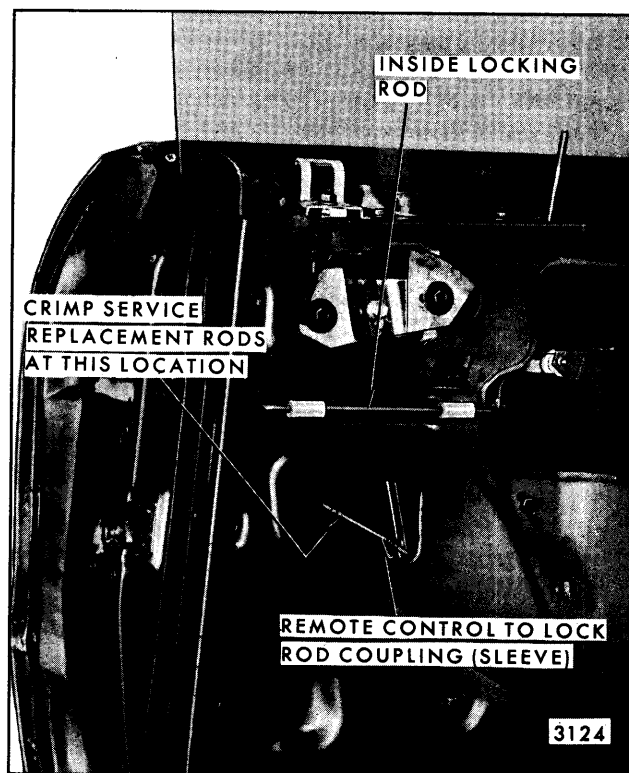
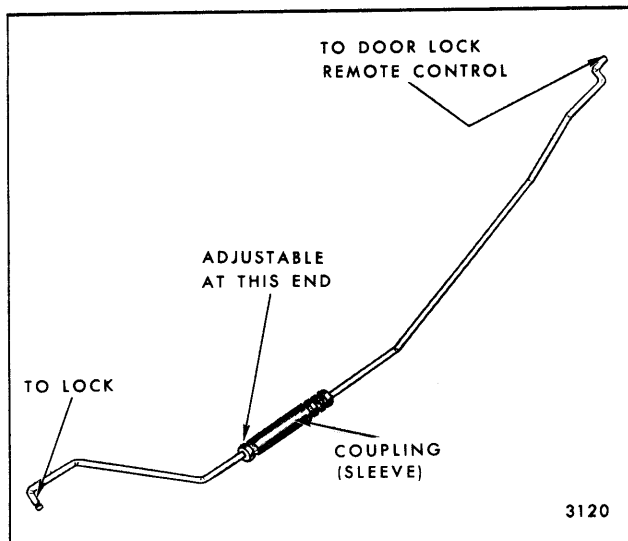

Fig. 6-65—Front Door Inside Locking Rod - Coupe Styles
Fig. 6-66—Door Lock Remote Control to Lock Connecting Rod - "G" Styles
2. Slide inside locking rod to door inner panel plastic retainers in direction of arrows shown in Figure 6-65.
**NOTE:** Due to the limited operating travel of the squeeze type remote control handle on "G" styles, an adjustable remote control to lock rod coupling (sleeve, Figure 6-65) is utilized to insure proper locking operation.
The overall length of the "G" body remote control to lock rod can be reduced, to correct insufficient travel of the remote handle to unlock the door, by removing the rod assembly and turning the portion of the rod between the coupling and lock assembly clockwise (Refer to Figure 6-66). To increase the rod assembly length, turn counterclockwise. Proper rod length is determined to be correct when the connecting rod assembly aligns with the attaching holes in the door lock remote control and lock assembly.
Service Replacement "G" body remote control to lock rods are uncrimped at the adjustable end of the coupling (Figure 6-66). This permits the rod to telescope to the desired length when installing, but necessitates crimping of the coupling after installation. Crimping can be done with a pair of diagonal cutters or comparable tool to insure proper locking operation (Refer to Figure 6-65 for crimping location).